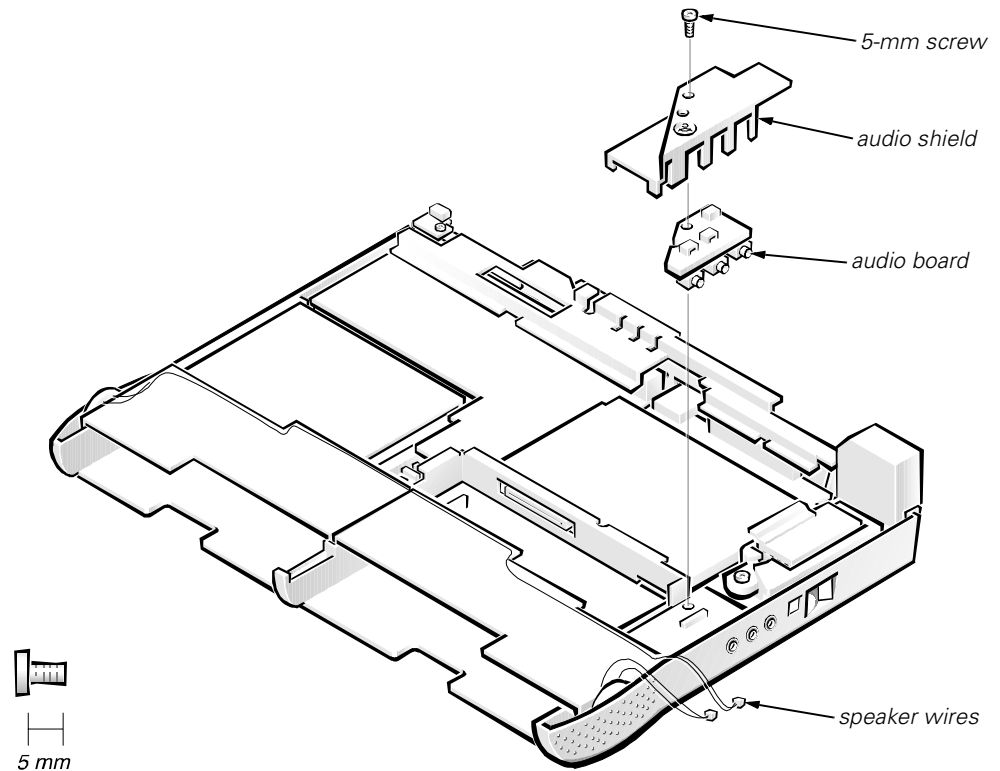

Figure 26. Audio Board Removal
2. **Remove the 5-mm screw securing the audio board shield (see Figure 26).**